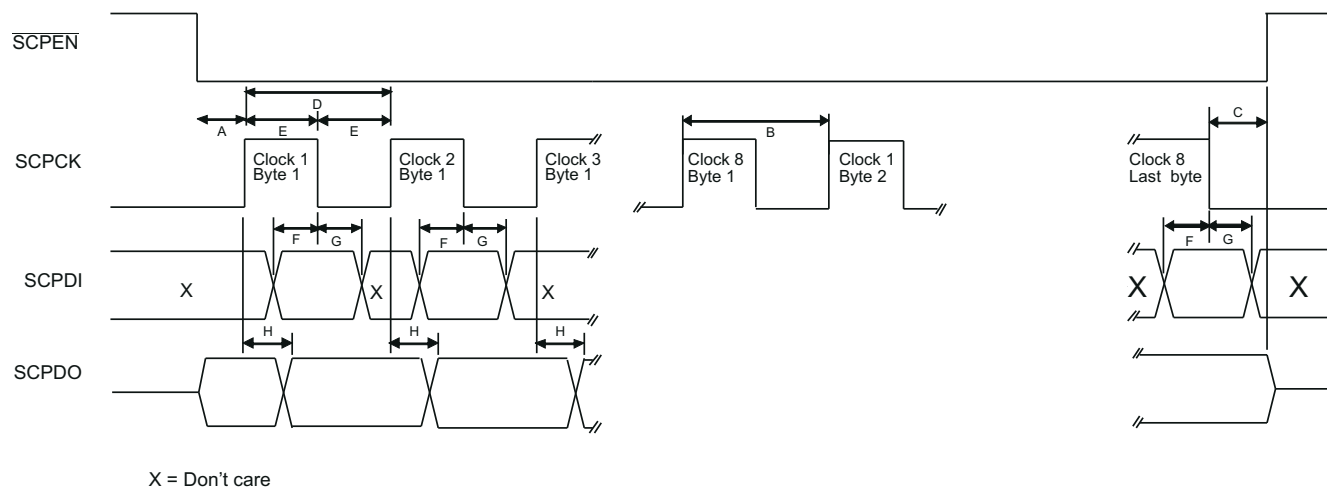

Figure 7-1. Serial Interface Timing
(1) See Figure 7-1
(2) There is no minimum speed for the serial port. It can be written to statically for diagnostic purposes.